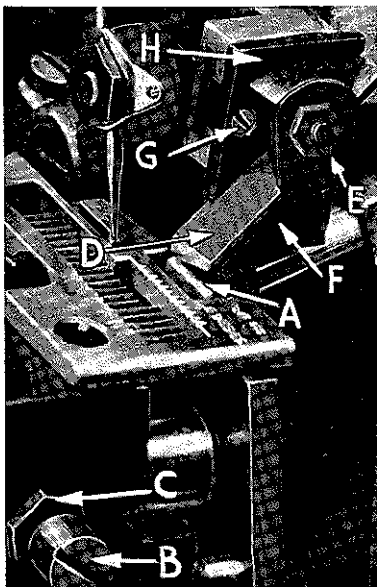

Fig. 12
Replace upper knife assembly. Clamp upper knife (D, Fig. 12) in position, setting nut (E) to hold clamp (F) in its most clockwise position against upper knife. At
Replace lower knife holder assembly. Lower knife (A, Fig. 12) should be set with cutting edge flush with throat plate surface. Adjustments are made with hexagonal head screw which holds lower knife. Lower knife
the bottom of its stroke, front cutting edge of upper knife should extend not less than  $1/64$  inch below cutting edge of lower knife. The chain guard (not shown in Fig. 12) should be set down against the upper knife and slightly back from the cutting edge.